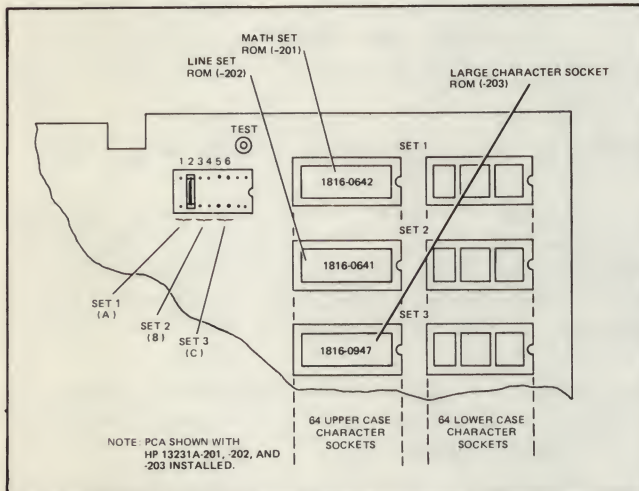

Figure 7-6. Display Enhancement PCA Jumper and ROM Socket Locations
1. () Using figure 7-6 and table 7-1 as a guide, check that Display Enhancement PCA jumpers are arranged correctly for the ROM character set configuration. If there are no alternate character set ROM's installed (HP 13231A), all jumpers should be in the jumper socket.
microvector. Then, using table 7-1 and figure 7-6 as a guide, correctly arrange Display Enhancement PCA jumpers 2 and 4 for the PROM character set type(s). (Jumpers 1 and 3 can either be removed or left installed.)